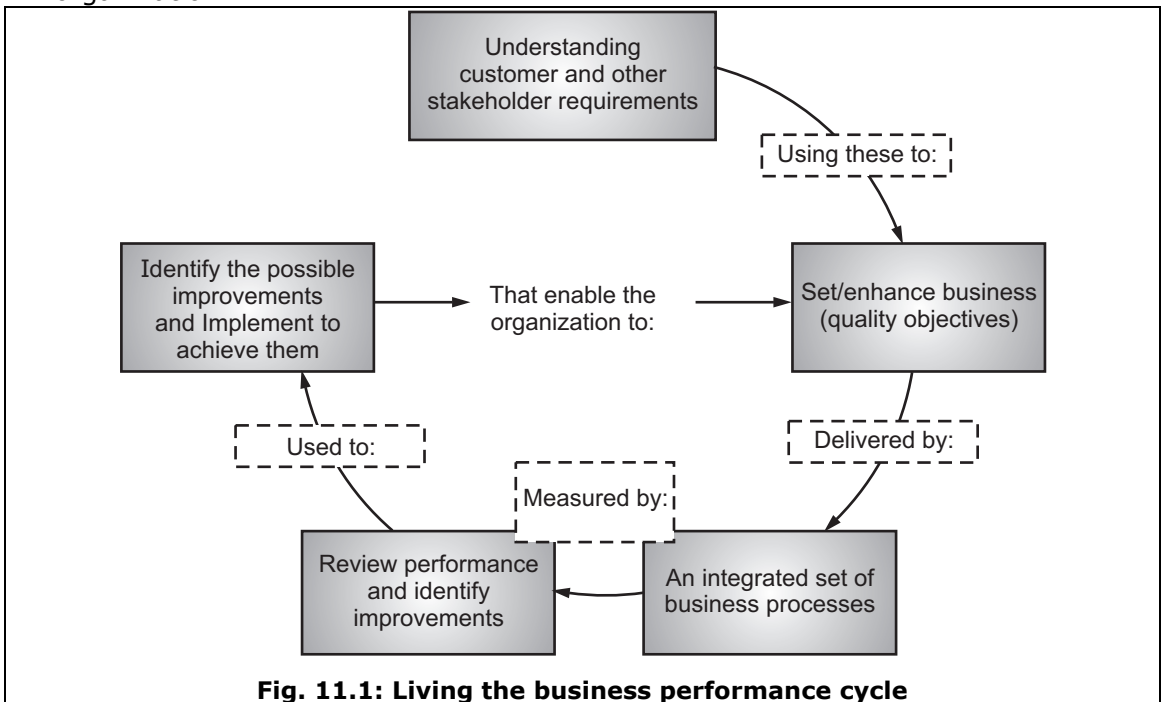

Fig. 11.1: Living the business performance cycle
- Figure 11.1 shows that, customers play a significant role in defining requirements as inputs. ISO 9001:2008 defines to understand 'what customers actually want from the organization' and 'what products and services will truly satisfy them' by market research. This is market research, part of the marketing world. No organization should ever try and develop/launch a product or service without knowing, there is a market for it and that, it will be used by potential customers.